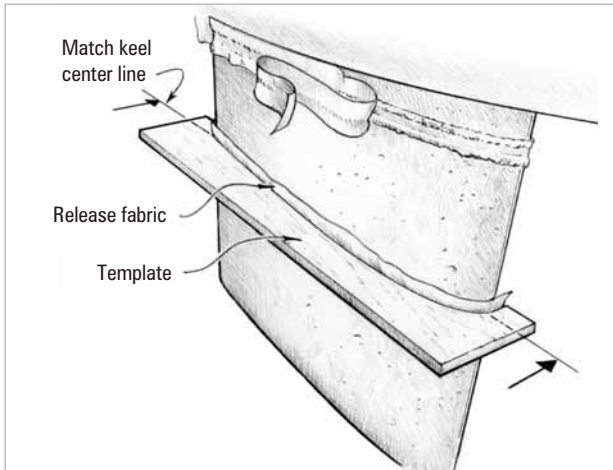

Figure 8-6 Make an impression of each template profile in the epoxy mixture. Sand the excess mixture flush with the profile after the mixture has cured.
6. Push the templates into the soft mixture to make an impression of the exact keel profile at each template location. To gauge the depth of the impression (height of the profile), push the template into the mixture until the centerlines marked on the template match the centerlines marked on the leading and trailing edges of the keel (*Figure 8-6*). If an area of the ridge is too low to contact the template when it is properly aligned, squeeze the material under the release fabric upward so it comes in contact with the template. When you're satisfied, carefully remove the template, leave the release fabric in place, and allow the mixture to cure thoroughly.